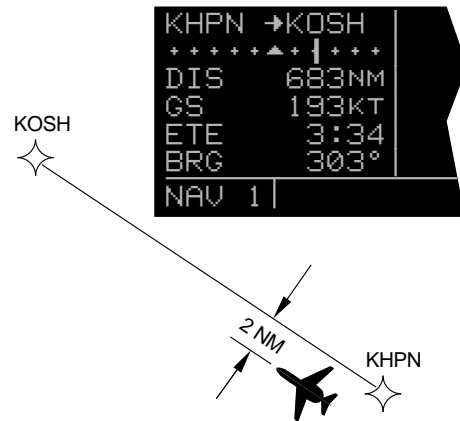

Figure 3-99
- A course deviation indicator (CDI) that displays left and right deviation from the desired track. A vertical bar operates like a navigation deviation needle on a conventional CDI or HSI. An on-course indication is displayed when the vertical deviation bar is centered on the triangle in the middle of the CDI. In both modes each dot represents one nautical mile deviation from the desired track. Therefore, the CDI shows course deviation five nautical miles left and right of course. A vertical deviation bar positioned two dots to the right of the center triangle indicates the aircraft is two nautical miles to the left of course (figure 3-99). The center triangle also serves as the CDI's TO/FROM indicator and operates in the same manner as a conventional CDI TO/FROM indicator; an "up" triangle indicates "to" the active waypoint while a "down" triangle (figure 3-100) indicates "from" the active waypoint. The word "FLAG" is displayed over the CDI when the KLN 900 is not usable for navigation (figure 3-101).